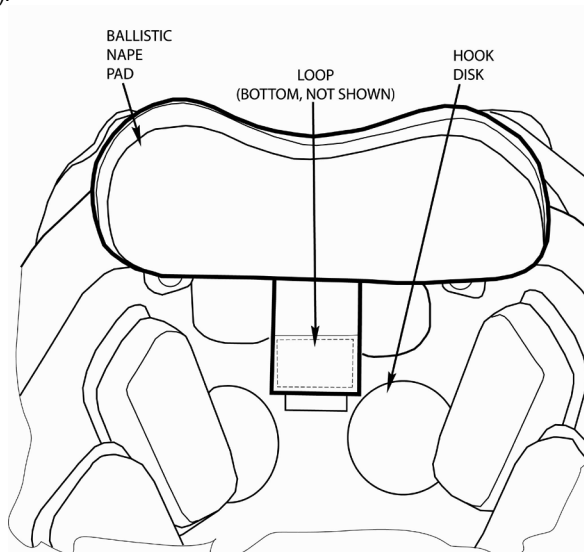

Figure 5. Attach Ballistic Nape Pad to Helmet Shell.
8. With the ballistic nape pad overlapping shell edge, press the loop tab against the hook disks on the inside of the shell (Figure 5).